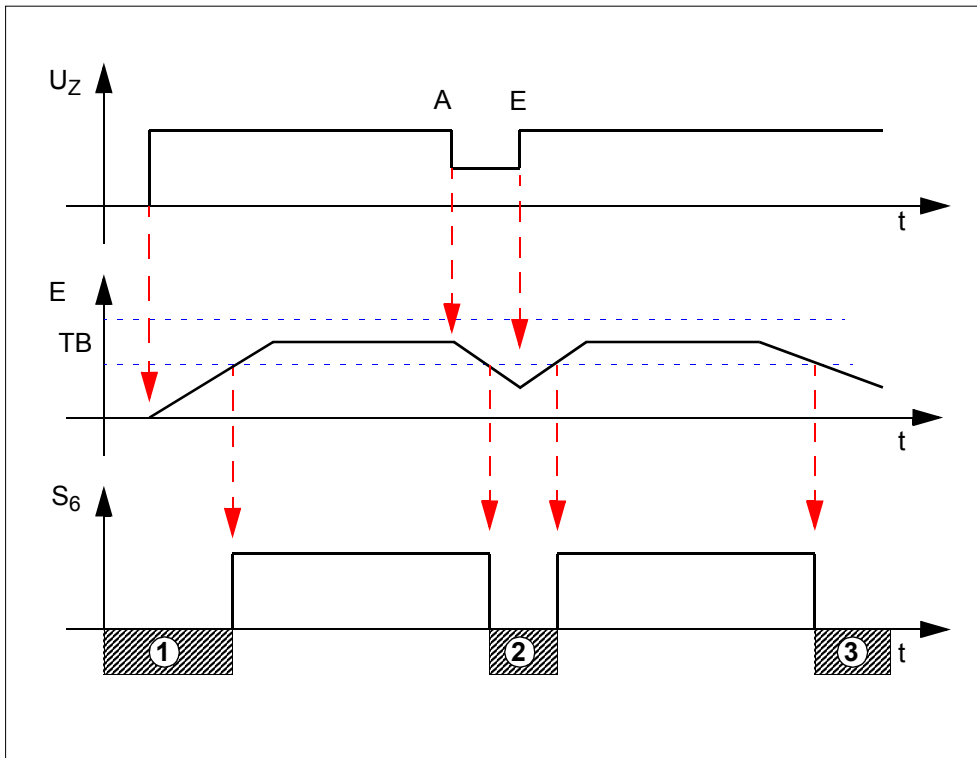

Fig. 11: Monitoring interface signal at terminal "6"
This context is further illustrated in the following figure (Fig. 11).
**The DEU-SU is in charging mode ①**
**Loss of power ② (Fig. 11)**
**The DEU-SU is not working properly ③ (Fig. 11)**